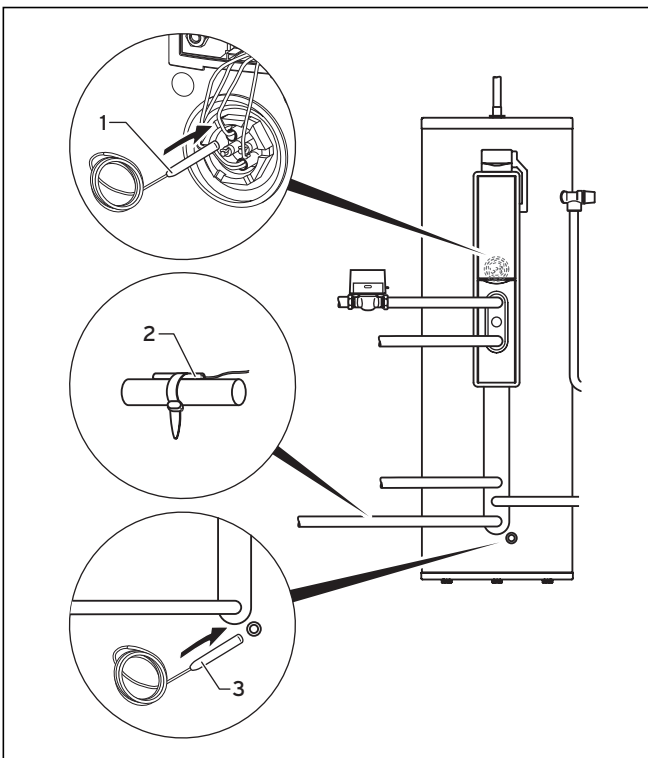

Fig. 5.26 Installation of the VR 10 temperature sensor
- Installation of two VR 10 temperature sensors in the solar cylinder (see Fig. 5.26)
- Attachment of the the solar gain sensor to the solar circuit return (see Fig. 5.26)
- Push one of the VR 10 temperature sensors (1) supplied with the solar control in an immersion sleeve where there is still room, as illustrated in Fig. 5.26.
- Push a VR 10 temperature sensor (3) in the immersion sleeve for the bottom cylinder area.
- Attach the temperature sensor for the gain (2) to the return pipe of the solar circuit nearby the solar cylinder.